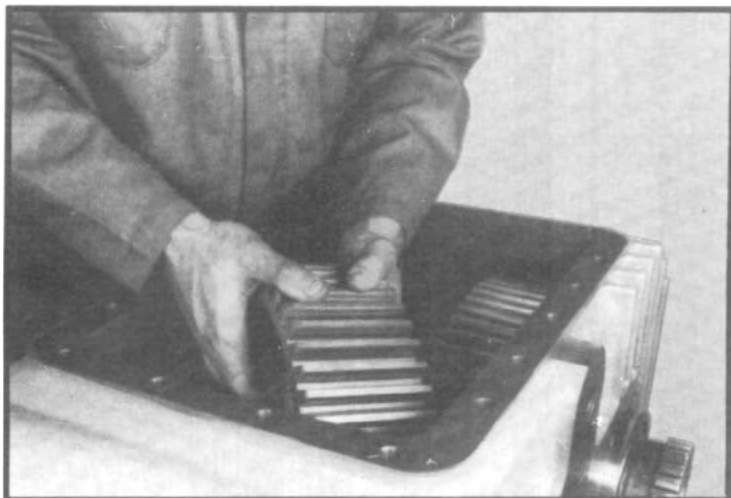

Fig. 31
11. Remove input gear from transfer case. (See fig. 31.)